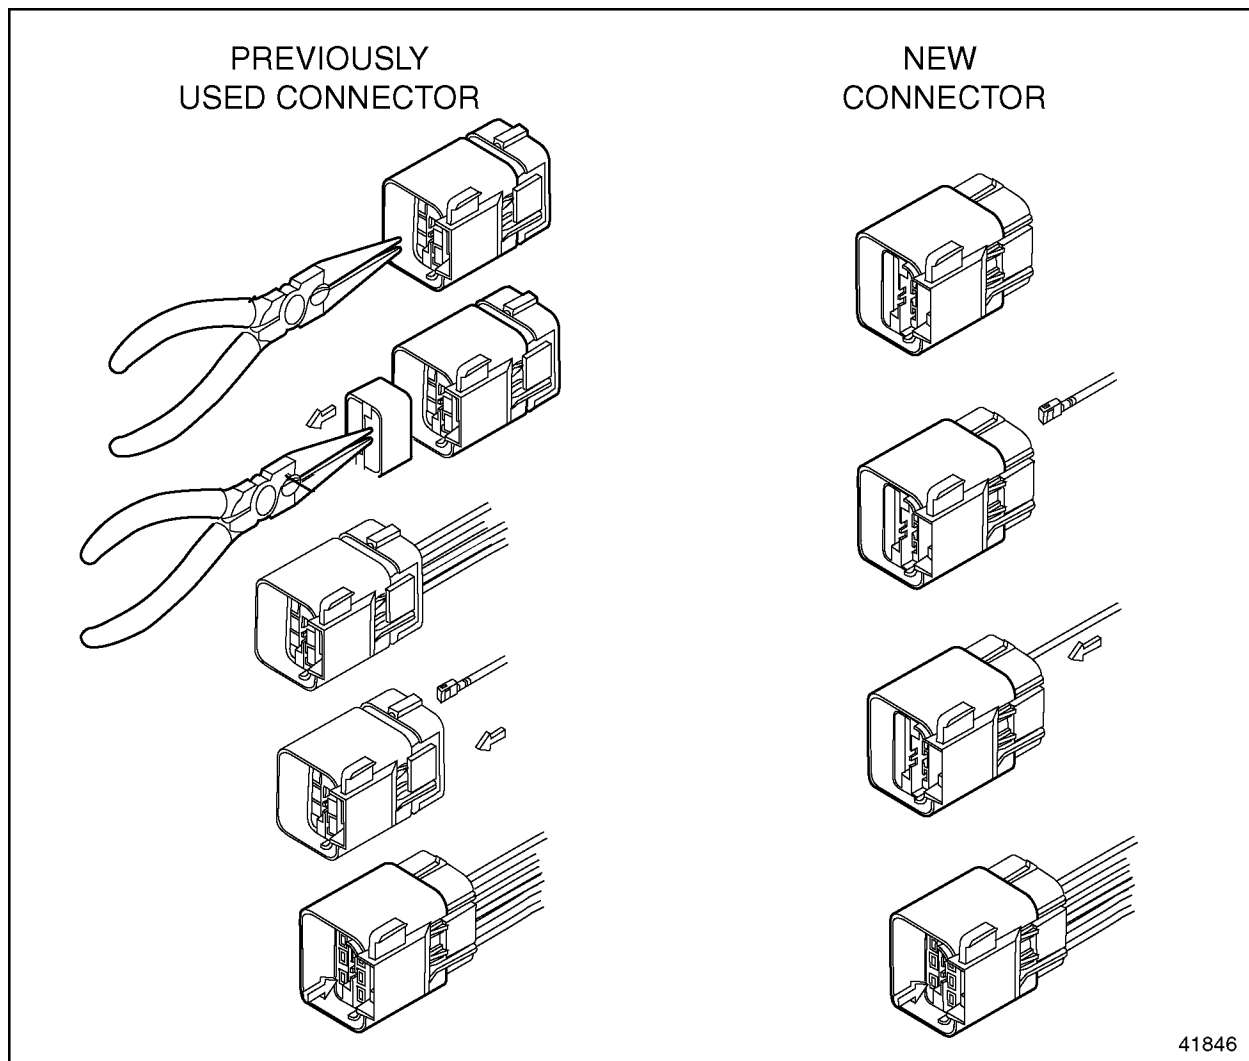

Figure 16-38 Installing the Terminal
- [b] If the connector is used, pull the TPA out (see Figure 16-38).
2. Insert the crimped terminal into the connector until it clicks (see Figure 16-38).